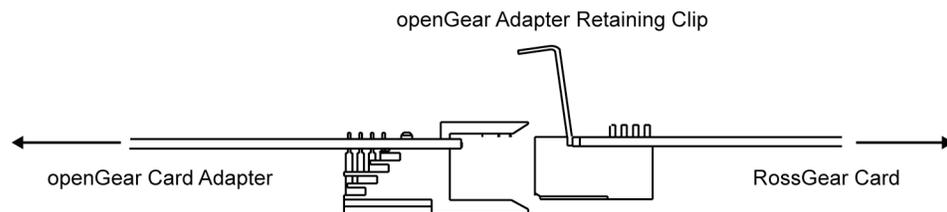

Figure 15. Disengaging the Cards
6. Gently pull the two cards apart, taking care not to twist or pry the openGear Card Adapter connector as you disengage the pins. Refer to **Figure 15** for details.